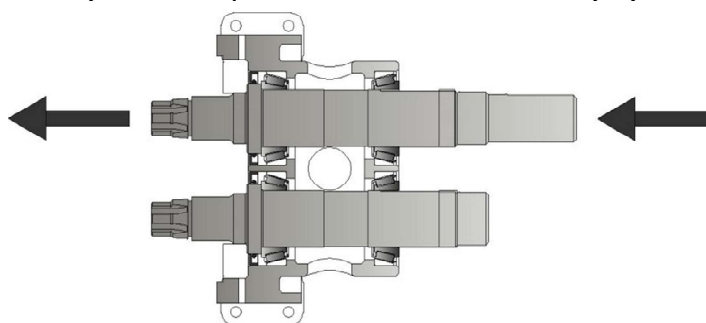

Figure 33 - Removing shafts
- Remove the rotor case (see 6.7 ROTOR CASE), drain oil via the plug (14) and remove the gear cover (11).
- Bend down the tab washers (7) which lock the gear nuts (8).
- Before loosening the gear nuts (8) lock the rotors on the shaft using the plastic block supplied for this purpose. Loosen the gear nuts (8) using a C-spanner.
- Remove the gear nuts (8), tab washers (7), timing gears (6) and drive shaft keys (28), from the shafts.
**Note:** On HP3 sized pumps there is a second tab washer (7a) and gear nut (8a) between the gears (6) and the rear bearings (4)
- Using a light press or soft hammer, drive out the shafts (24 & 25) towards the front (rotor case end) of the bearing housing (1) (Figure 33). This will push out the front oil seals (23).